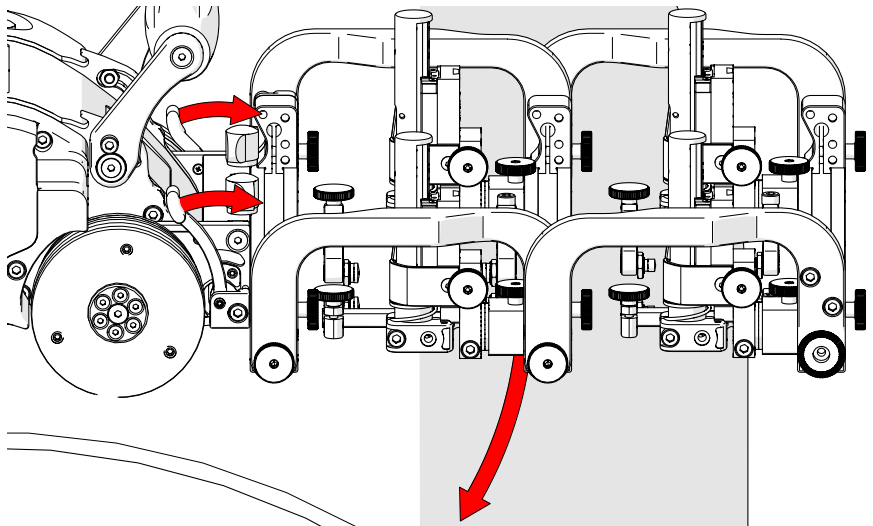
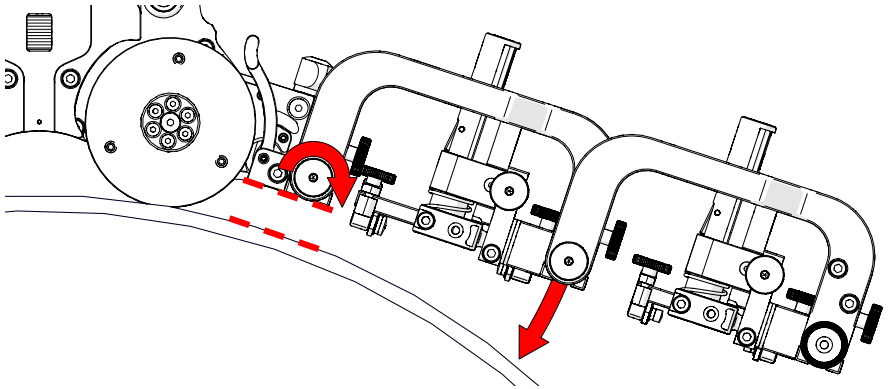

Fig. 161 - Align swivel mount with scan surface
Fig. 162 - Set rear rotational adjustment knob
3. Mount the probe holder frame to the crawler (*see Cable Retainer on page 48 for additional details*). When mounting the probe holder frame, ensure the attachment knobs (*Fig. 161*) are at the front (*non-crawler side*).
4. Release the two swivel mount levers (*Fig. 161*) to position the swivel mount parallel to the scan surface (*Fig. 162*). When alignment with the scan surface is achieved, lock the crawler swivel mount levers.
5. Loosen the rear rotational adjustment knob to lower the weld scan frame towards the inspection surface (*Fig. 162*).